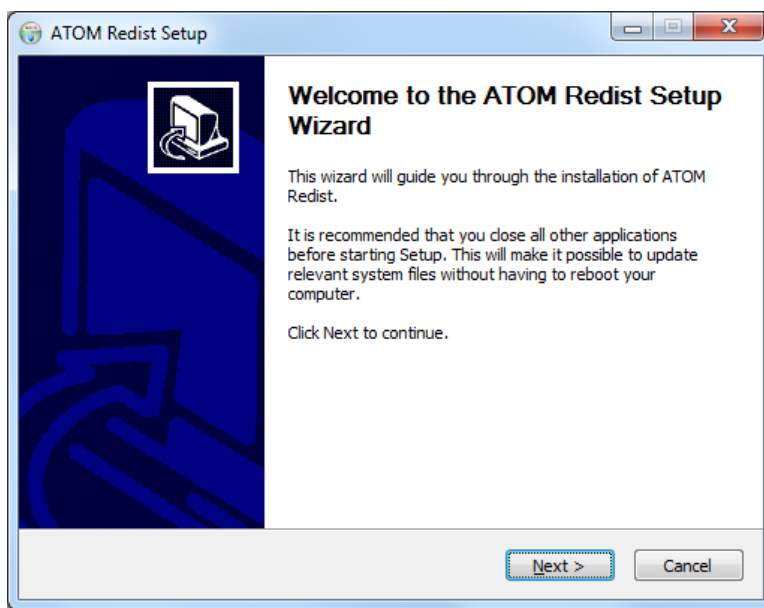

Figure 3.5
2. On the start screen that comes up, click on “Next” (Figure 3.5).